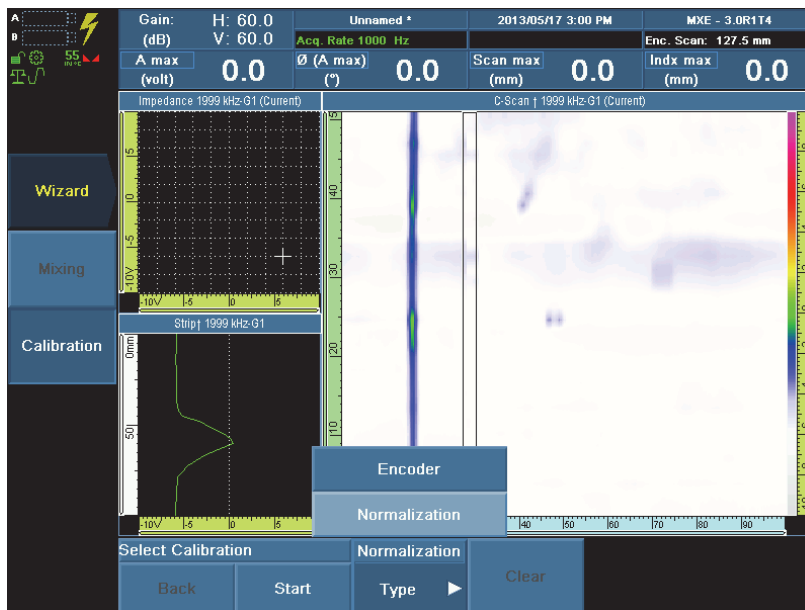

Figure 10-3 The Set Calibration step parameters
6. Position the selection cursors on the strongest signal (see Figure 10-3 on page 194). For more information, see section 12.2 on page 227.
The **Select Calibration** step allows you to configure the type of calibration to perform, and then to start the wizard (see Figure 10-3 on page 194).
The **Set Origin** step allows you to configure the origin of the predetermined distance that the probe will travel to calibrate the encoder (see Figure 10-3 on page 194).